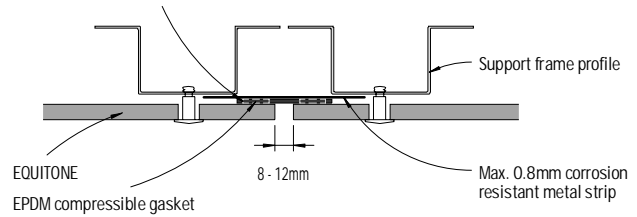

Figure 6: Vertical joint - Detail 2
- 1) In Figure 6 & 7, the metal strip should be fixed ONLY to one of the support frame profiles (either left or right) where allowance for horizontal and/or vertical movement of the cladding frame is required.